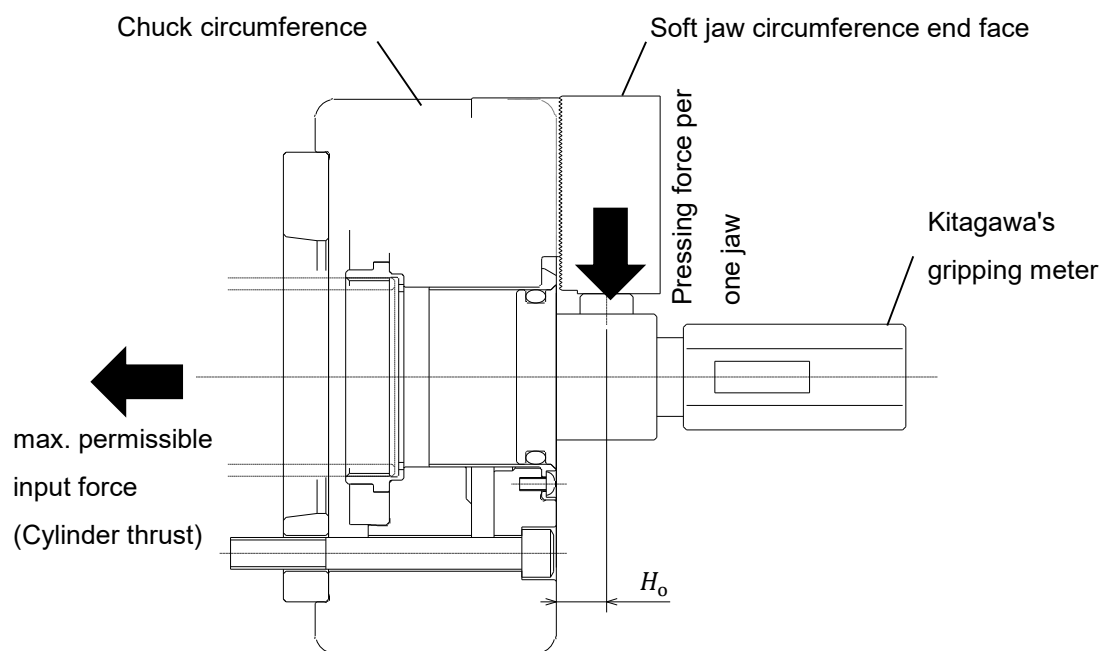

Figure 5 Gripping force measuring method
- The gripping force is measured by the Kitagawa's gripping meter, and the height of the gripping position is as shown in Figure 5. (Also refer to Table 5)